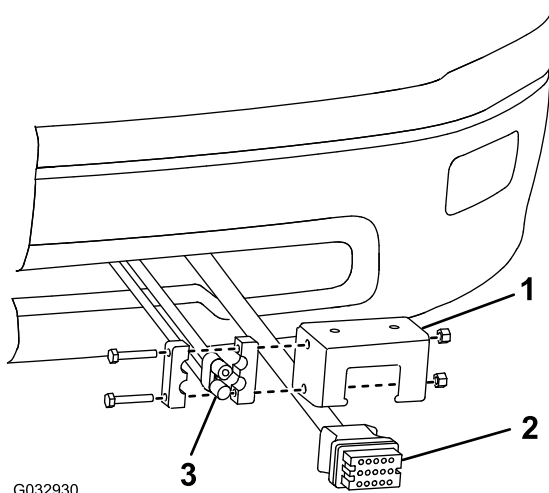

Figure 21
27. Mount the truck-side, wire harness plow connector to the lower part of the bumper using the control harness mounting bracket (Figure 21).
28. Mount the black and red power/ground connector to the control harness mounting bracket (Figure 21).